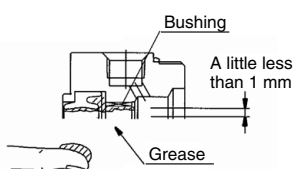

Fig. 6 Rod seal
- ③⑦ Rod seal A: Apply grease to the seal and the inner circumference of the bushing. (Fig. 6)